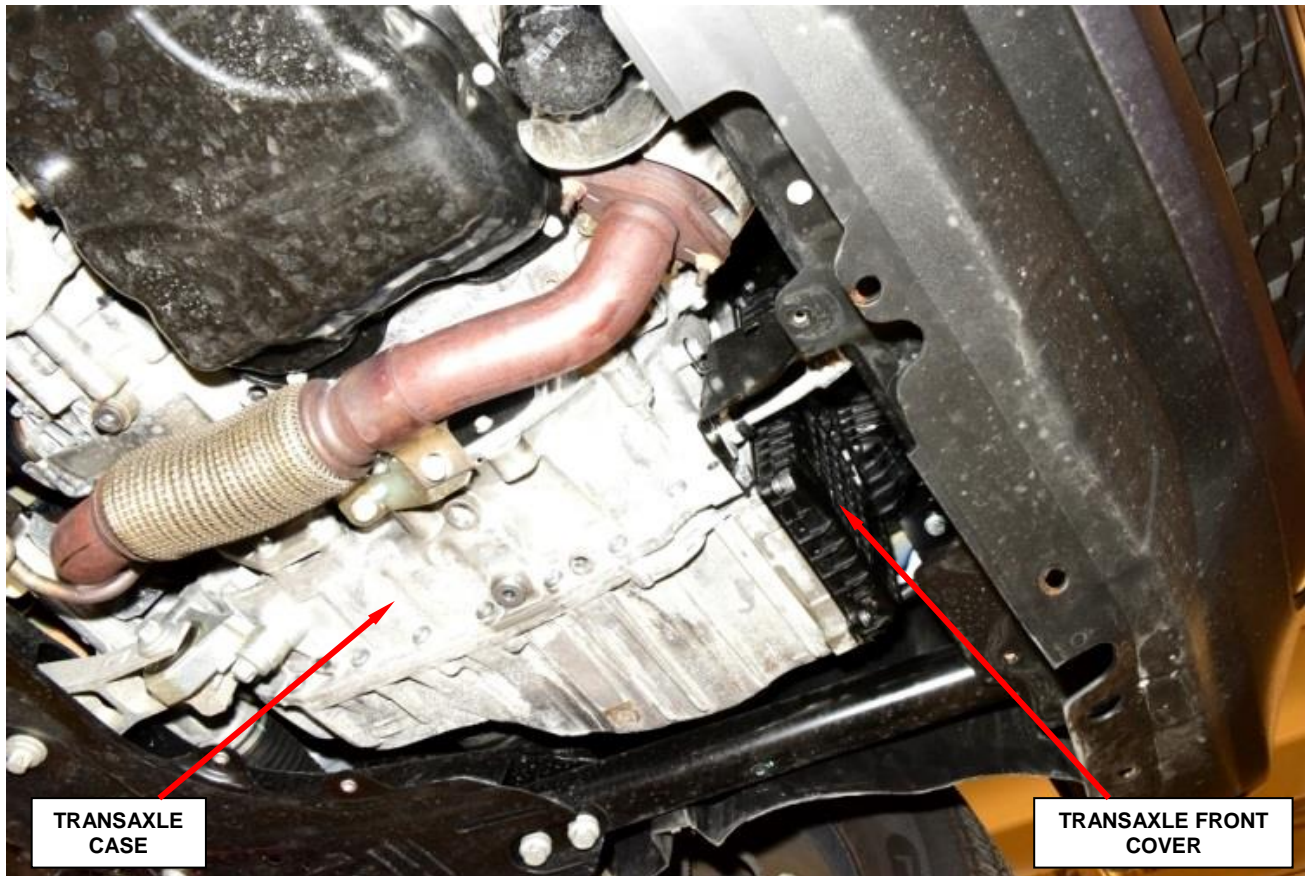

Figure 5 – Transaxle Front Cover
17. Remove and save the transaxle front cover (Figure 5).